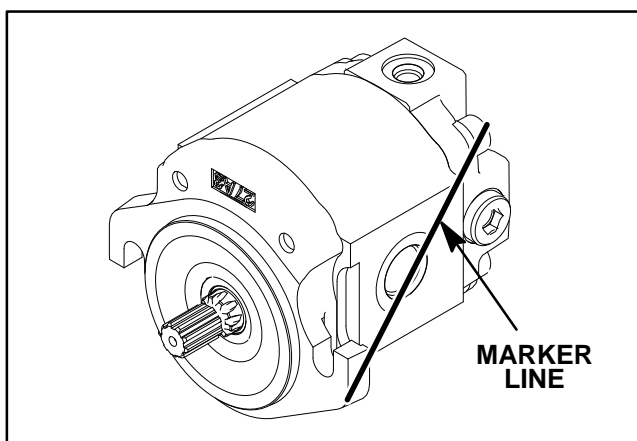

Figure 67
2. Use a marker to make a **diagonal** line across the front flange, body and rear cover for assembly purposes (Fig. 67).